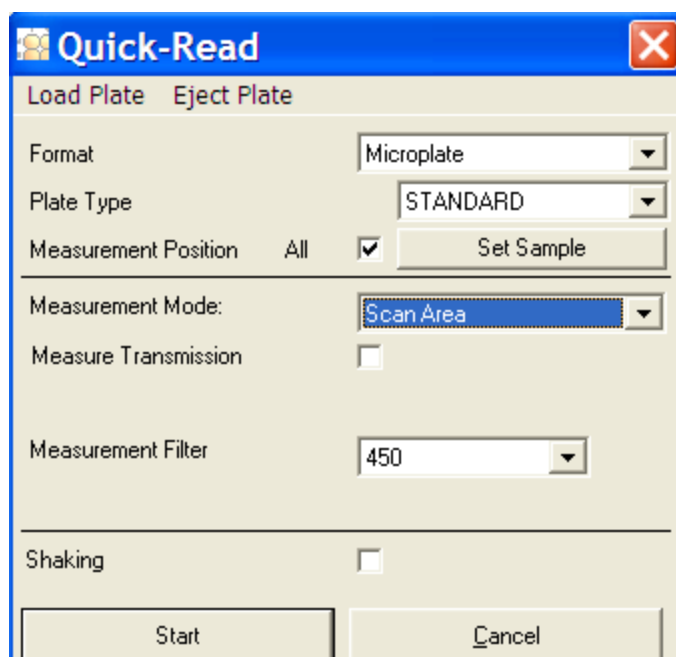

Figure 6-8: Quick-Read – Scan Area parameters
2. In Measurement Mode, choose **Scan Area**. The measurement parameters available for area scan measurements appear (Figure 6-8).